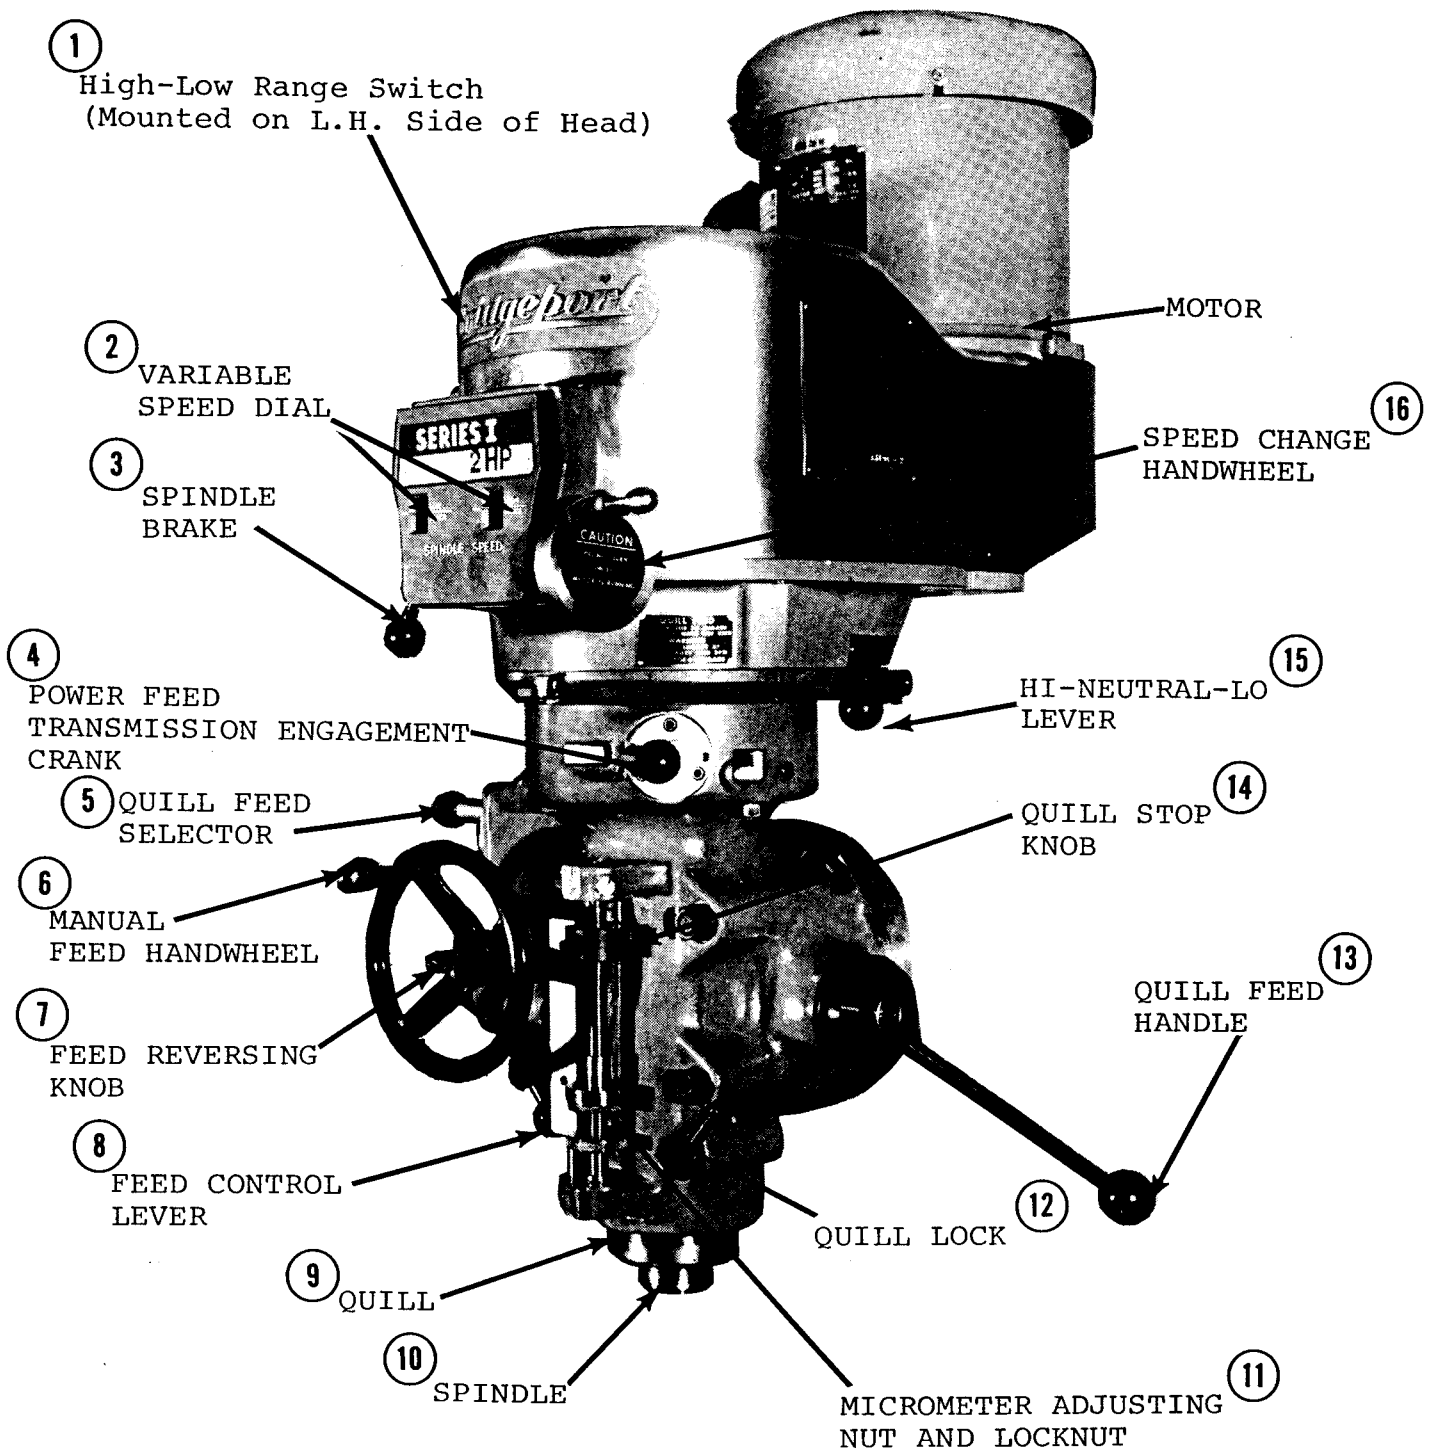
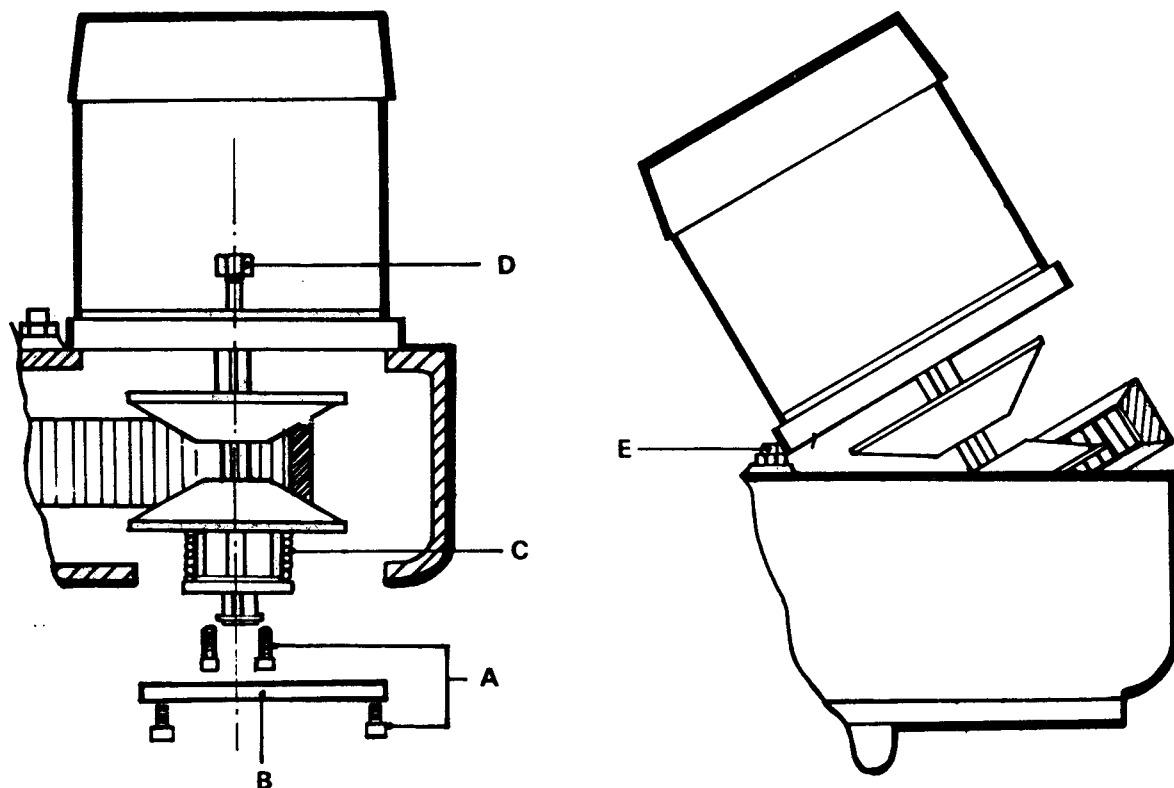
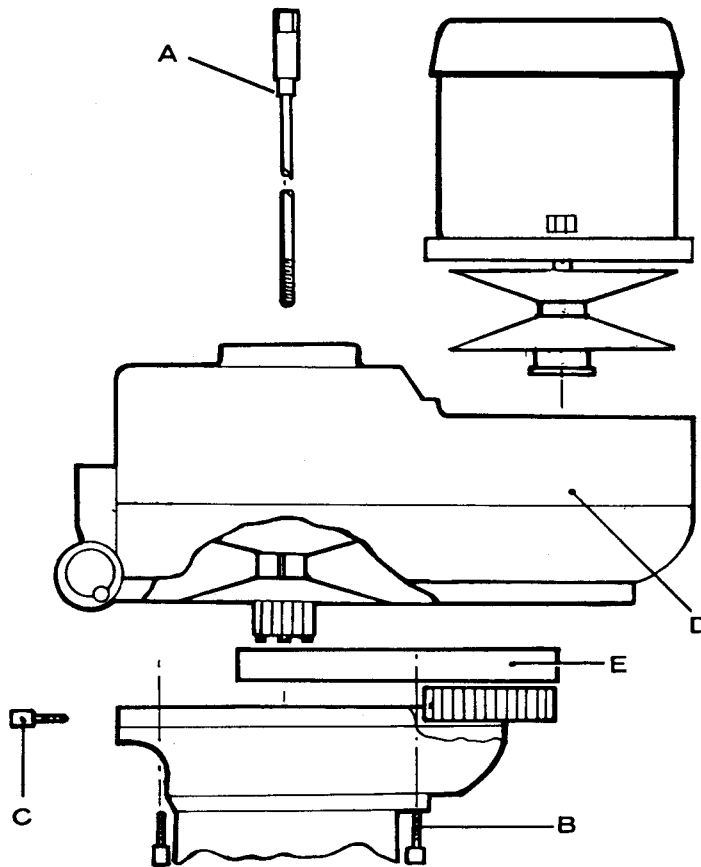

Figure 10. 2J Milling Attachment
Figure 11. Removing the Motor (Side View)
Figure 13. Removing Timing Belt
SPEED CHANGE HANDWHEEL (16, Figure 10): DO NOT attempt to change spindle RPM unless the motor is running. Dial speeds will only be approximate. Belt wear will cause a slight variation in speeds from what is indicated on the dial.
SPINDLE BRAKE (3, Figure 10): Brake lever can be moved in either direction to stop spindle; however, when locking spindle, lever should be moved to right or left and then raised. When brake is worn out it has to be replaced. There are no adjustments to be made.
POWER FEED TRANSMISSION ENGAGEMENT CRANK (4, Figure 10): Engages power feed worm gear. When lever is in right hand hole, the power feed worm gear is engaged. To disengage worm gear, pull knob out and crank handle in clockwise or down direction and move to opposite position.
Wear on the vari-drive belt will cause a slight change in the speeds to that shown in windows (#22 page 36) on the dial. This can be corrected as follows. Crank the speed change handwheel (#16, Figure 10) snugly against the high speed stop. (This will be near the 4200 reading on the dial.) Use a tachometer to determine the spindle speed, then turn the pivot stud (#16 page 38), after loosening the jam nut (Item #7 page 38) until the spindle speed registers 4200 on the tachometer; tighten jam nut.
REMOVING THE MOTOR (See Figure 11): Run the attachment to the bottom of either speed range and shut off the motor. This puts the vari-drive belt in the best position for disassembly.
2. Remove the cover (#76 page 36) (B, Figure 11) at the lower end of the motor shaft. Use two cover screws (#75 page 36) (A) to fasten the spring (#44 page 38) (C) on the lower end of the motor shaft, to the lower motor vari-drive pulley (#43 page 38). This will reduce the hazard of personal injury that is always present when a heavy spring is under compression. When the pulley, spring retainer (#45 page 38) and spring are securely fastened as a single unit, crank the speed change handwheel (#16 Figure 10) to top speed position.
3. Now remove the screws (#9 page 38) (D) that fasten the motor to the belt housing. The motor should be lifted slightly and pulled firmly away from the spindle and toward the rear of the belt housing. This will pull the vari-drive belt (#27 page 38) deeply into the spindle pulley (#25 page 38), providing the slack needed to slip the belt over the motor pulley (#43 page 38).
4. Now lift the motor high enough to rest the motor base GENTLY on the adjusting screw (#16 page 38) (E) seen directly in front of the motor flange. The belt can now be slipped over the lower pulley and the motor removed from the housing.
CHANGING TIMING BELT (Figure 13)
Complete the operation for removing the motor. Then put the Hi-Neutral-Lo lever (#15, Figure 10) in the Lo position, remove the drawbar (#14 page 38) (A, Figure 13) and lower the spindle.